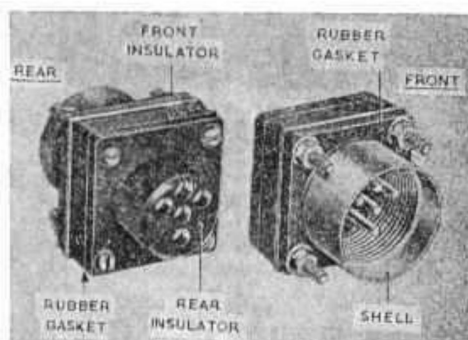

Fig. 3. Fixed unit—climatic-proof
9. In the stage 3 version (fig. 3, 4 and 5), two rubber insulator gaskets (on either face of the front insulator) and a shell gasket were introduced to